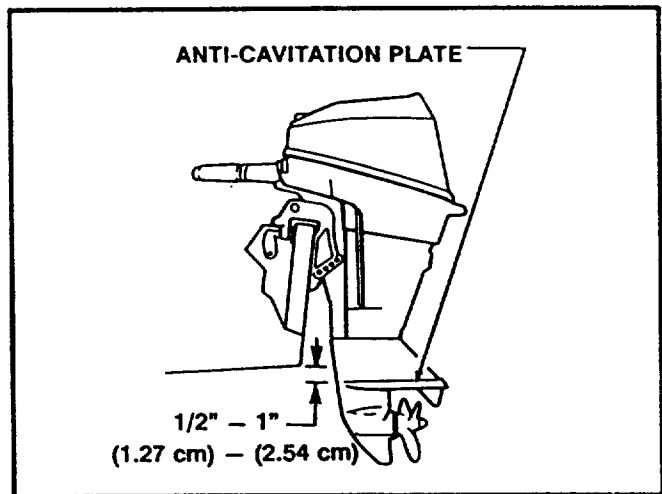

FIGURE 2
- Raise or lower the motor until the anti-cavitation plate is 1/2" to 1" below the bottom of the boat. (Figure 2)